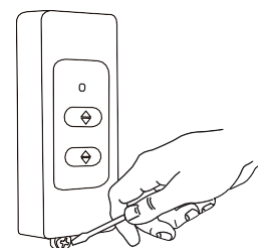

Figure 2
- Lock the lower hole of the wall switch with screws (Figure 2).